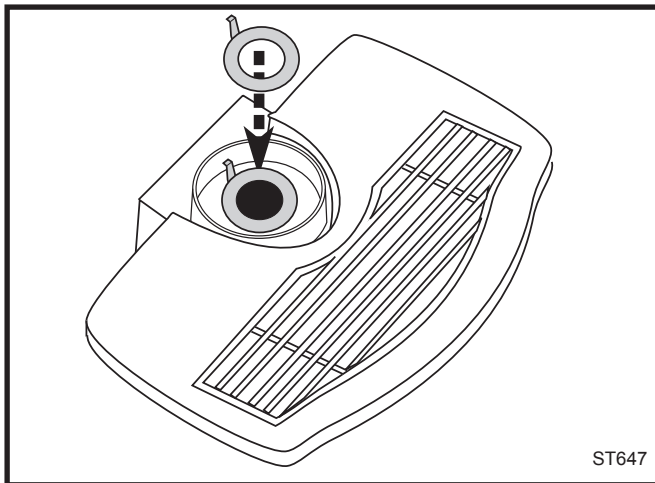

Fig. 18 Install the restrictor plate only if required for the venting configuration. Refer to Page 7.
- 1. Install the Restrictor Plate.** Consult Page 7, Figure 8 to determine whether the restrictor plate is needed. If so, place the restrictor plate within the inner flue collar as shown in Figure 18.
1. **Install the Restrictor Plate.** Consult Page 7 to determine whether the restrictor plate is needed. If so, place the restrictor plate within the inner flue collar as shown in Figure 18.